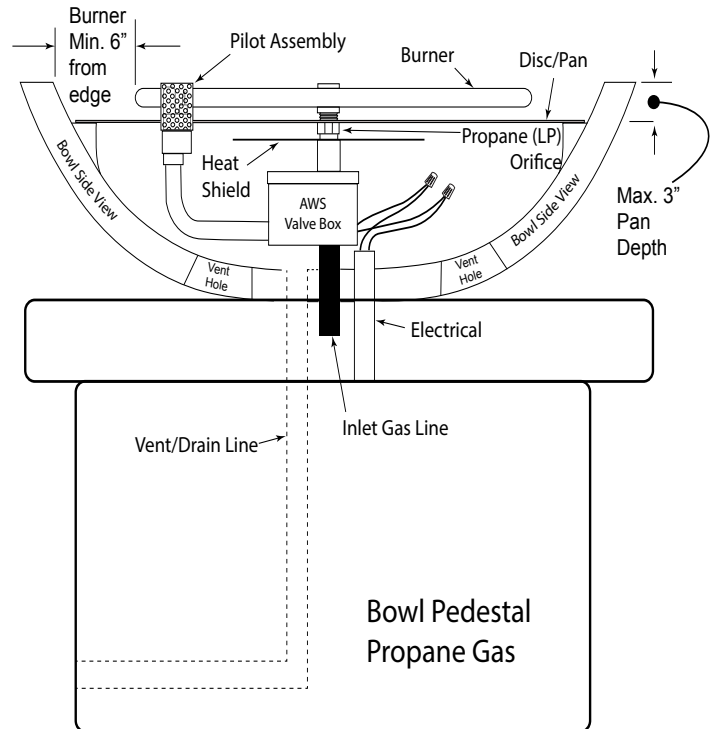

Fig. 4 Bowl installation for Propane (LP) gas.
- Bowls require cross ventilation at the Bottom of bowl. See Fig. 4.